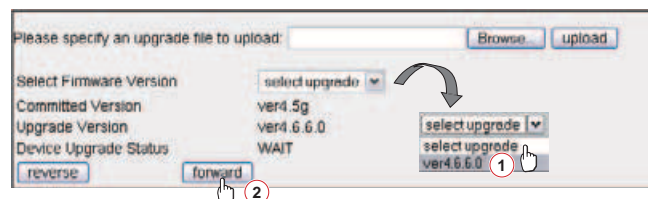

Figure 45. Prepare an Upgrade in a Codec
2. Click the **Select Firmware Version** drop-down box (① on figure 45) and click the firmware file you want to install. Usually only one is file listed.